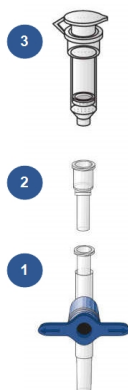

Figure 2. Assembly of components of the QIAamp DSP DNA Blood Mini Kit for vacuum processing of samples.
Ensure that you set up the QIAamp Mini spin column, the VacConnector (VC), and the VacValve correctly (see Figure 2).